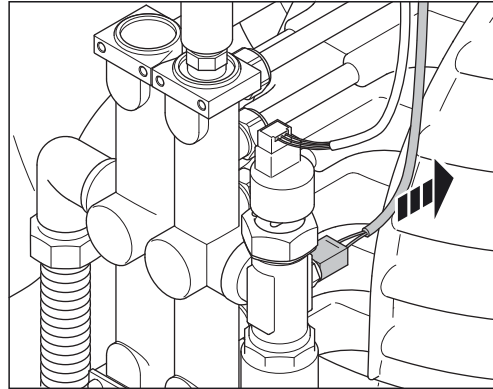

Fig. 6-10 Pull out the connector on the flow temperature sensor
2. Pull out the connectors on the flow temperature sensor/ return flow temperature sensor (fig. 6-10).